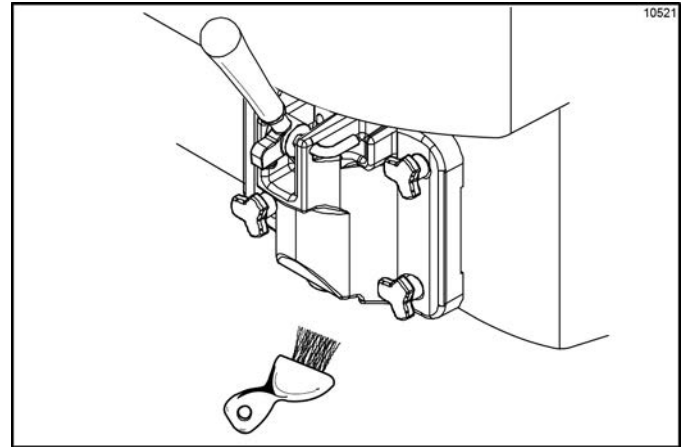

Figure 6-86
- Return to the freezer with a small amount of sanitizing solution. Dip the door spout brush into the sanitizing solution and brush clean the door spout and bottom of the draw valve. (See Figure 6-86.)